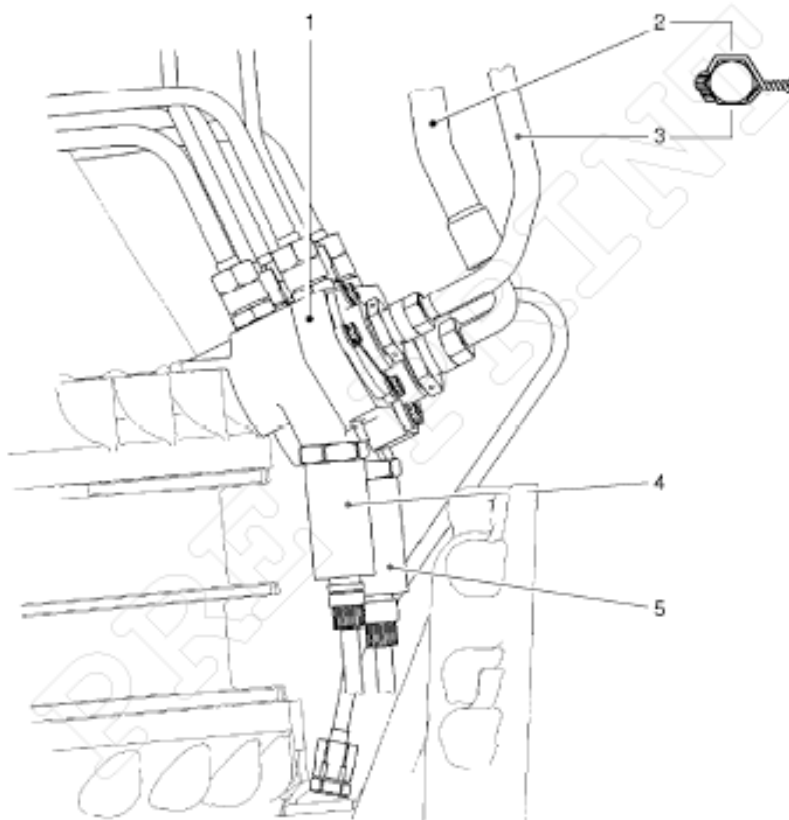

Figure 2
- Remove the [ATTACHMENT ASSEMBLY 332A979001.11] (7).
- Install the attachment screws (4) and the washers (5) of the reservoir.
- Safety the attachment screws (4) of the reservoir with [Lockwire CM 776].
- Connect and safety the pipe of the air-air exchanger (3) (Figure 2) to the main distributor with [Lockwire CM 776].